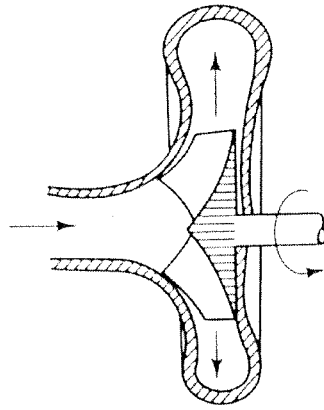

Fig. 3
- (f) The shape of the pump is shown in Fig. 3. Sketch a diagram showing streamlines through the pump. Explain why the pressure is high or low in certain regions of the pump, and mark these regions on your diagram. [2]